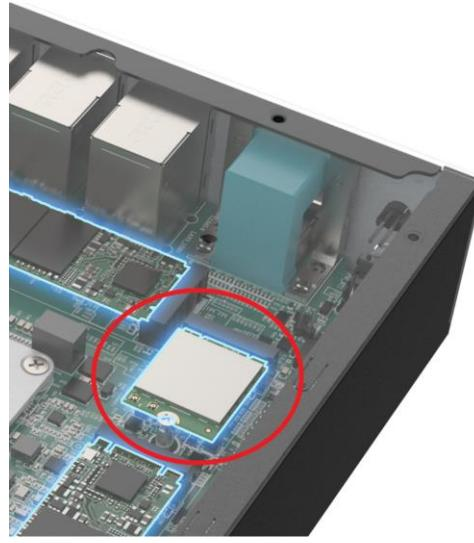

Figure 3-6: M.2 A-key Location
Step 3: Locate the M.2 A-key slot (Figure 3-6).